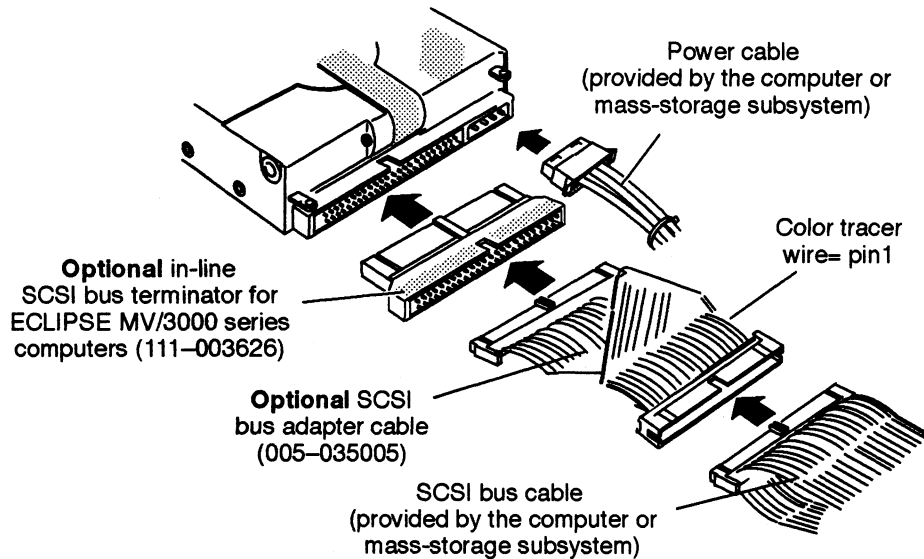

Figure 9 Connecting the SCSI bus cable and power cable to the back of the Model 61005-S, 61006-S, or 61007-S drive
- ▶ If you are installing the drive in an ECLIPSE MV/3000 series computer and the drive will be disk 0, connect the in-line terminator plug, 111-003626 (Figure 9) into the SCSI bus connector on the drive.
- ▶ Connect the SCSI bus cable provided by the computer or mass-storage subsystem into the SCSI bus connector (or optional in-line terminator plug) on the back of the disk drive (Figure 9).
9. If you cannot connect the SCSI bus cable to the drive without twisting it, connect an optional adapter cable (005-035005) between the SCSI bus cable and the disk drive (Figure 9).
- ▶ If you are installing a drive model with a -S suffix, refer to Figure 9.